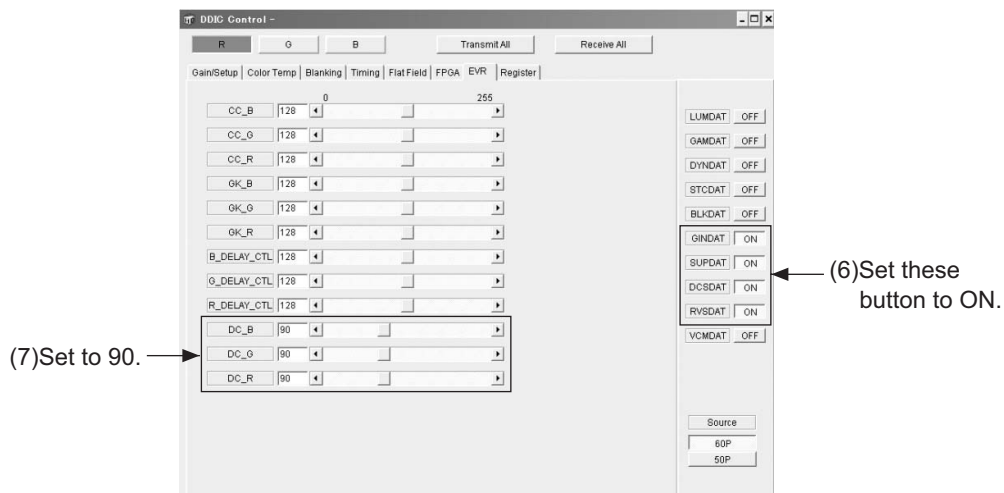
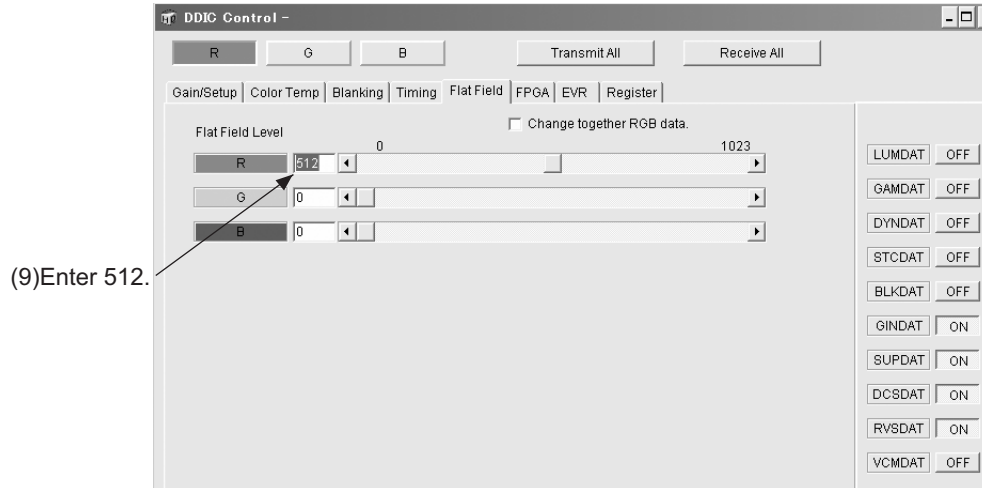

Fig.2
Fig.3
- (4) Press the [DDIC] button in the SPA screen. The DDIC Control screen will be displayed accordingly.
- (5) Press [Receive All] at the top right of the screen.
- (6) Press [R] at the top left of the screen. Set the following buttons located in the furthest right of the screen as follows: Set [GINDAT],[SUPDAT],[DCSDAT] to ON, and the rest to OFF. Refer to Fig.2.
- (7) In the [DDIC] [Control EVR tag] screen, set the value for DC_R, DC_G and DC_B to 90, respectively. Refer to Fig.2.
- (8) Put the photo-sensor at 40 cm away from the surface of the Projector lens (Screen center) and connect the sensor to the oscilloscope.
- (9) On the [DDIC Control][Flat Field] tag, set the Flat Field Level value for a color to be adjusted to 512 and the rest to 0, respectively. Refer to Fig.3.